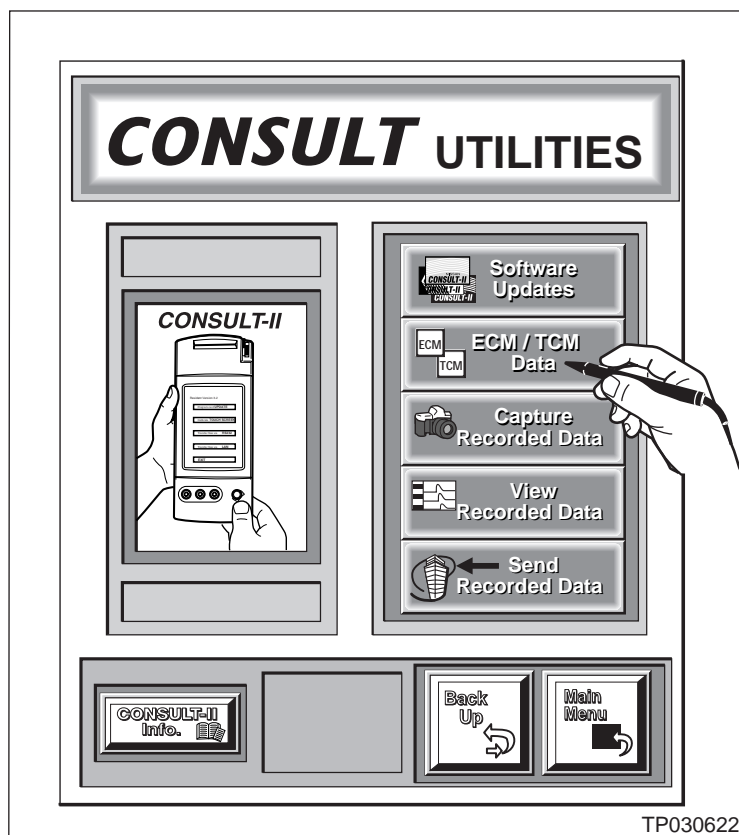

Figure 4
- From the "**CONSULT UTILITIES**" screen, select "**ECM / TCM DATA**" (see Figure 4).